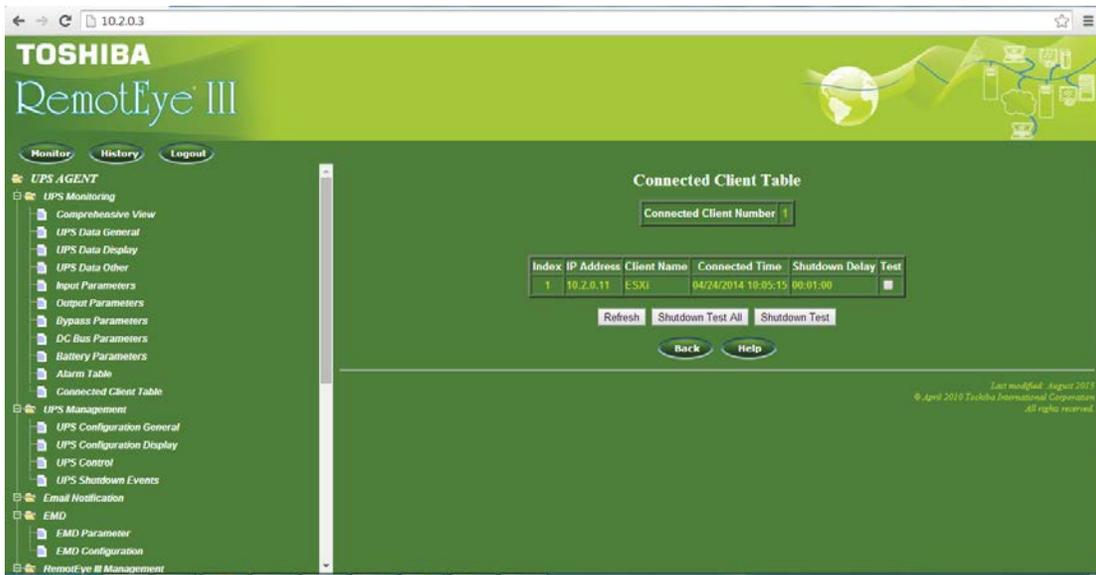

Figure 0-8 Connected Client Table in RemotEye III
16. Verify that RemotEye and ESXi server are communicating. Go to RemotEye web interface and look for the "**Connected Client Table**" web page. Open the **Connected Client Table** web page. (See Figure 0-8)